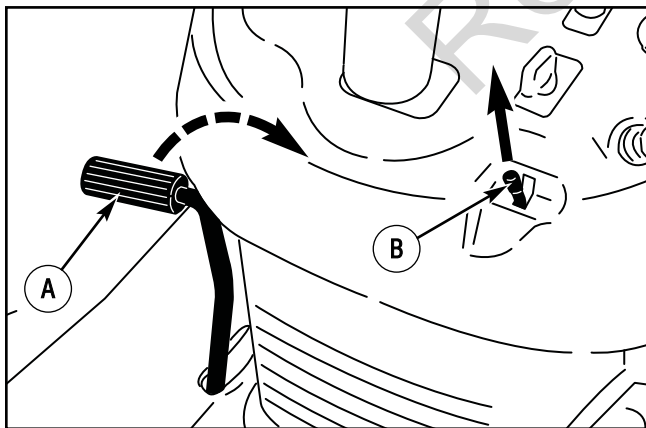

Figure 14: Parking brake
2. Lift the **parking brake lever** (Figure 14).
**WARNING:** Before you leave the operator's position, move the speed control pedal to the neutral (N) position. Set the parking brake. Move the blade rotation control to the DISENGAGE position. Stop the engine and remove the ignition key.